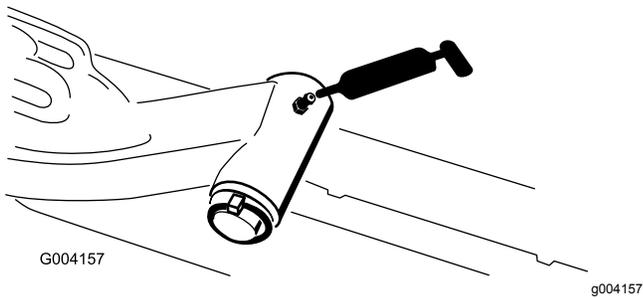

Figure 65
- Lift-arm-pivot shaft (1 each) (Figure 65)